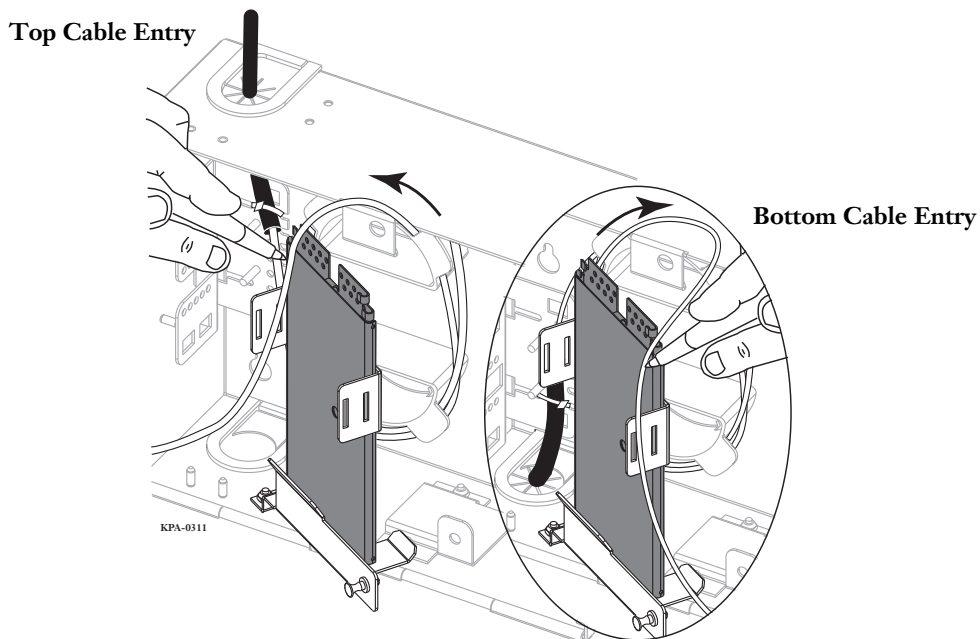

Figure 4 — Route Buffer Tube
Step 1: Route the buffer tube in a counterclockwise direction around the radius control guides to the splice tray (Figure 4).